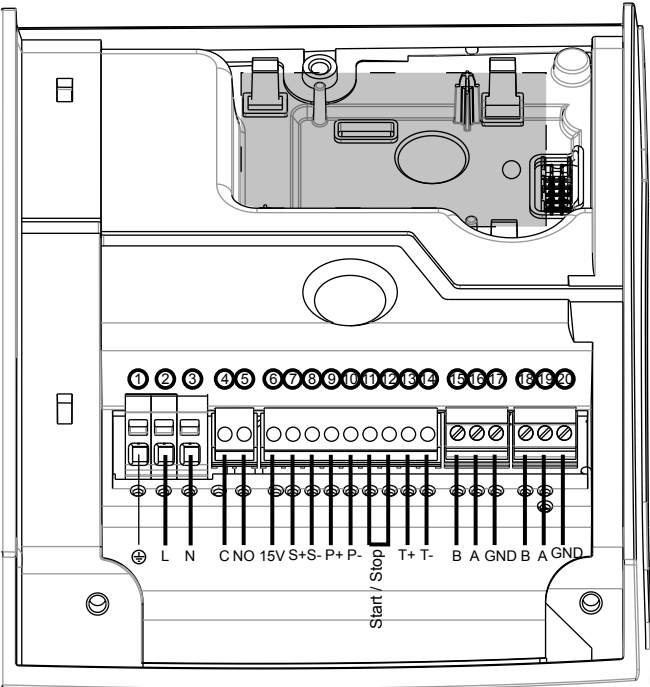

Figure 4: Connection diagram
The pump can be started or stopped via an external dry contact or a relay that is connected to terminals 11 and 12. The pump unit is provided by default, with the terminals 11 and 12 jumpered. See Figure 4 on page 8.
The pump integrates a 0-10 V analog input at terminals 7 and 8. See terminal diagram figures for changing the setpoint. See Figure 4 on page 8.
A dry contact relay is provided at terminals 4 and 5. See connection diagram, figure 4 on page 8, for location. If there is a fault, the relay contact closes to display a red status light and the error code on the user interface display. See User interface (page 8). The relay contact closure can also be used to energize a remote fault display.
2. Connect wires at terminals 9 and 10. See Figure 4 on page 8.
5. Select the right sensor model and confirm the selection using the parameter button (3). See User interface (page 8).
7. The setpoint can be changed using the settings button (5). See User interface (page 8).